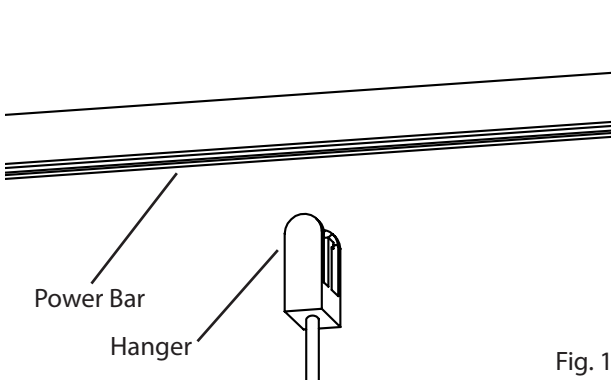

Fig. 1
1. Align **Hanger** with **Power Bar** (Fig. 1) and press down firmly on the top of the Power Bar, while pressing up on the bottom of the Hanger, until the Power Bar clicks into place. (Fig. 2)
2. Press up firmly on both sides the bottom of the **Monoline™ Luminaire Hanger**, while pressing down on the top of the **Power Bar**, until the Luminaire Hanger clicks into place (Fig. 1).